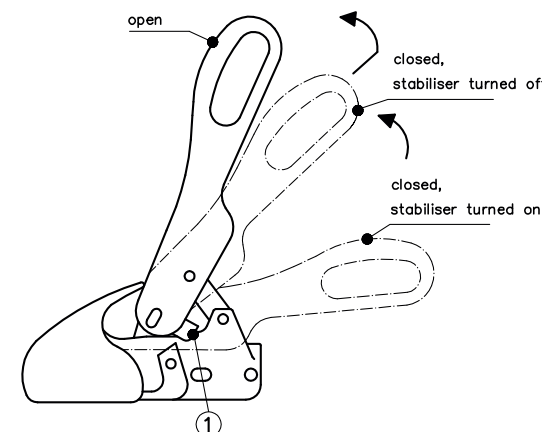

Fig. 6: Switching off stabiliser
Pull the operating lever up slowly to deactivate the stabiliser (Fig. 6).
Disconnect lighting plug and contact breaking cable. Pull the operating lever upwards slowly in order to switch off the stabiliser (Fig. 6). Pull the operating lever back and simultaneously lift again (Fig. 6) so that the side securing plates (1) swing over the securing surfaces and the operating lever can be moved into the open position. The trailer can now be uncoupled from the towing vehicle with the help of a jockey wheel.